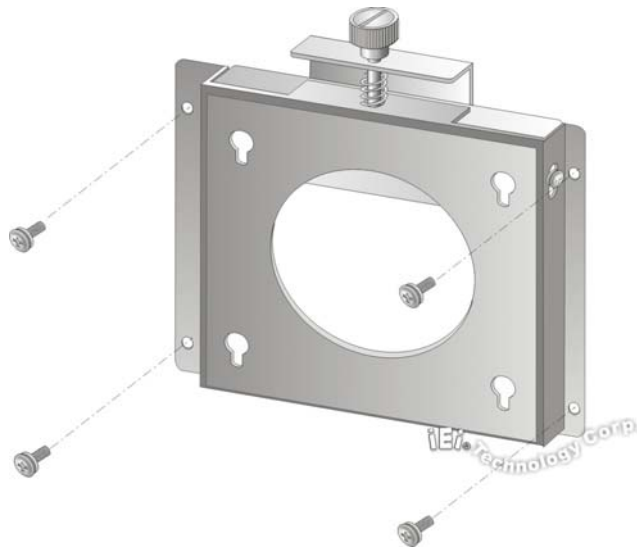

Figure 3-11: Wall-mounting Bracket
Step 5: Secure the mounting-bracket to the wall by inserting the retention screws into the four pilot holes and tightening them (Figure 3-11).